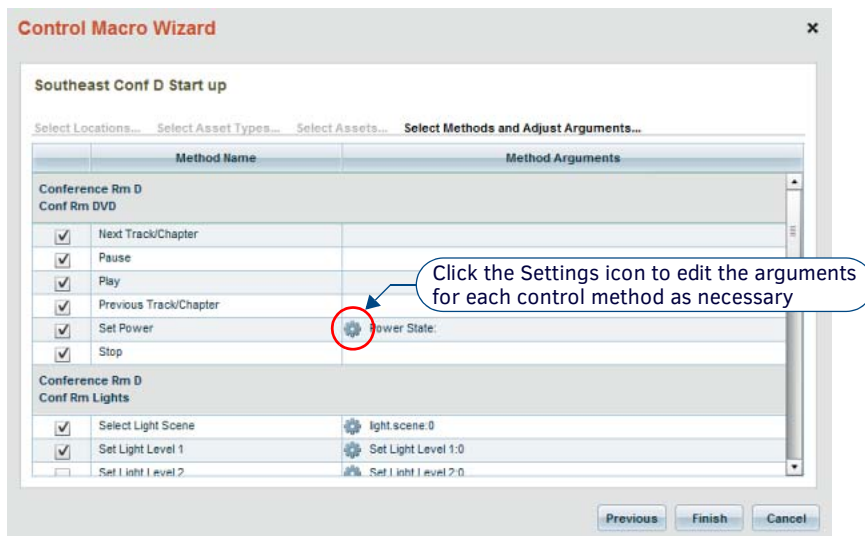
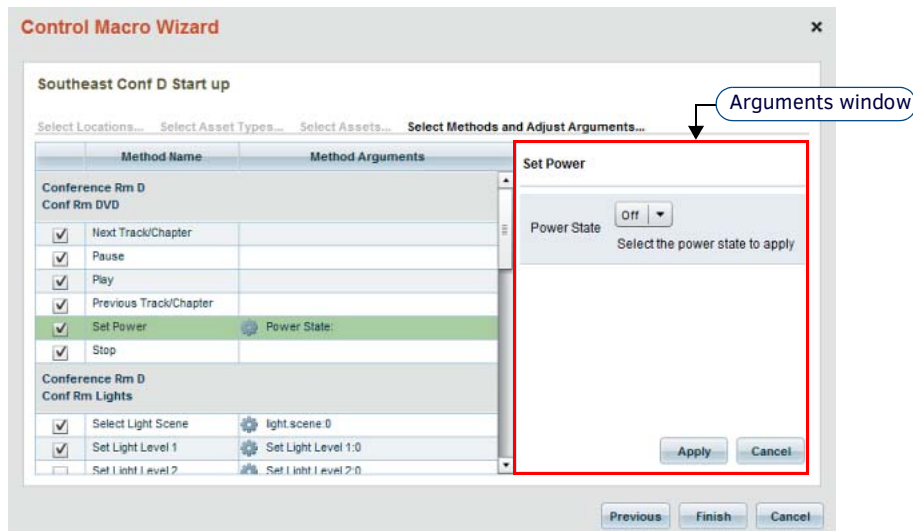

FIG. 281 Control Macro Wizard - Select Methods and Adjust Arguments
FIG. 282 Control Macro Wizard - Select Methods and Adjust Arguments - Arguments for "Set Power"
- Click the *Settings* icon (see FIG. 281) for any control macro method to edit that method's arguments as necessary. This action invokes an additional set of fields, depending on the control method selected. An example is shown in FIG. 282: